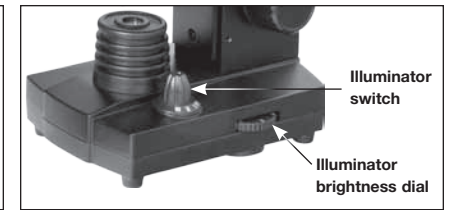

Figure 5. Illumination.
- Turn illumination rotary switch clockwise to position III **(Figure 5)**
The illuminators are selectable via the rotary illumination switch **(Figure 5)**.
Brightness can be adjusted via rotary brightness dial **(Figure 5)**.